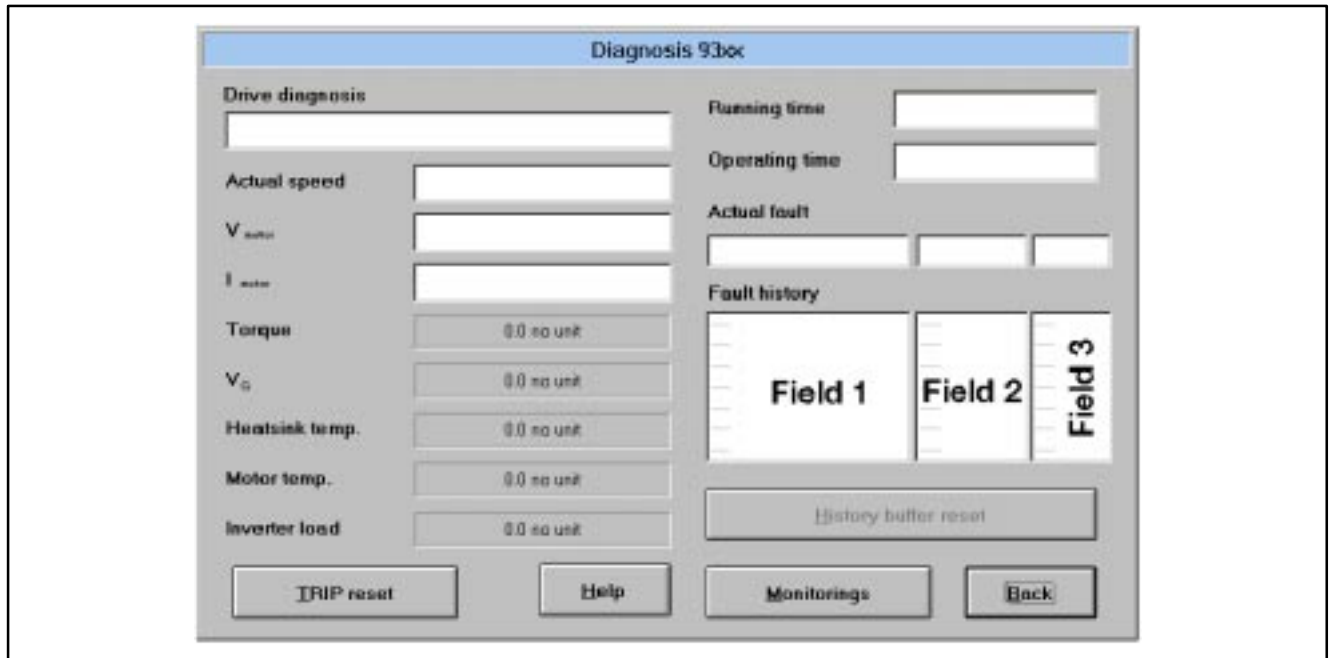

Abb. 8-4 Dialog box "Diagnostics 9300"
- Reference time is the mains switch-on time (see Abb. 8-4, field top right).